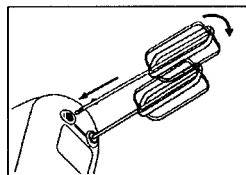

Figure 2
2. Push other Beater or Dough Hook (without Washer-Ring) into other Mixer hole. Rotate the Beater until it locks into position. (See Figure 2.)